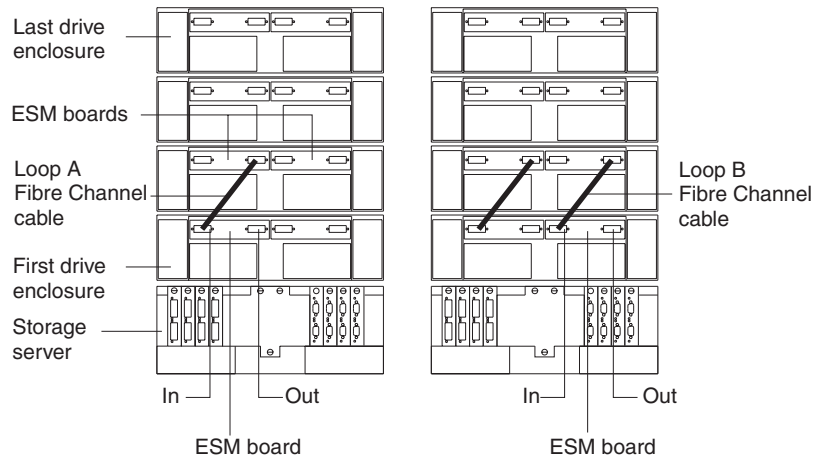

Figure 27. Connecting two drive enclosures into drive loop A
1. Connect the first two drive enclosures to drive loop A, as shown in Figure 27 on page 27.